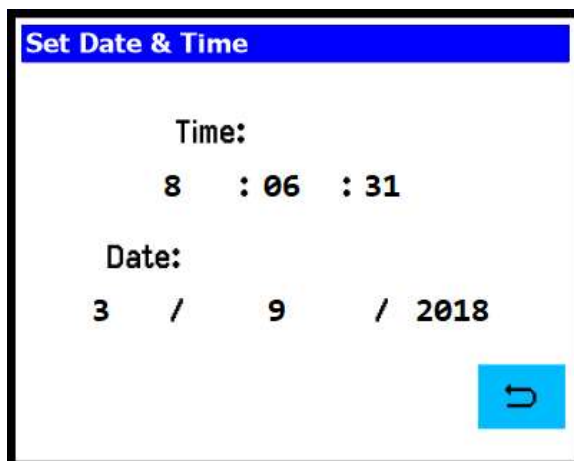

Figure 24
2. Press the  and the Set Date & Time screen (figure 24) will be displayed. Select the data to be adjusted and set the correct time and date.